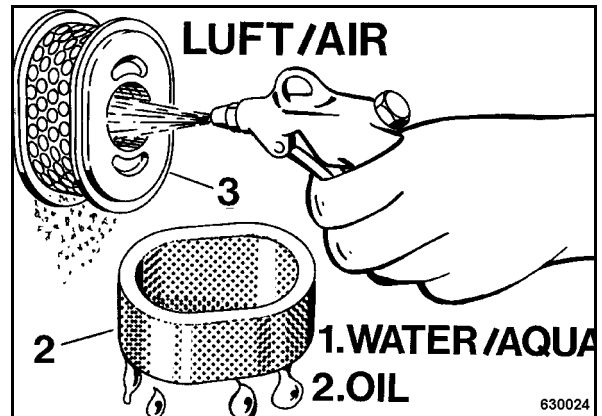

Fig. 39
- Clean the paper insert (3) (Fig. 39) carefully by light banging or blow it carefully out from inside to outside with dry, clean compressed air (max. 2 bar).
- Clean the foam insert (2) in warm soapy water, rinse it and let it dry thoroughly.